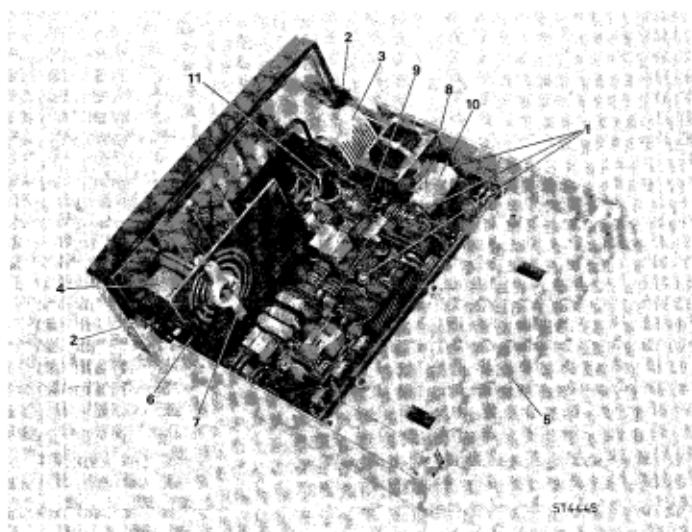

Fig. 5.2. Removing the bottom cover
#### Removing the bottom cover (Fig. 5.2.)
- Remove the three fixing screws which attach the printed circuit board to the bottom cover (Fig. 5.2. item 1).
- Bend out the two hooks of the front plate (Fig. 5.2. item 2).
- Disconnect the flexible print from the connector X1700 (Fig. 5.2. item 3).
- Disconnect X1702 (Fig. 5.2. item 4).